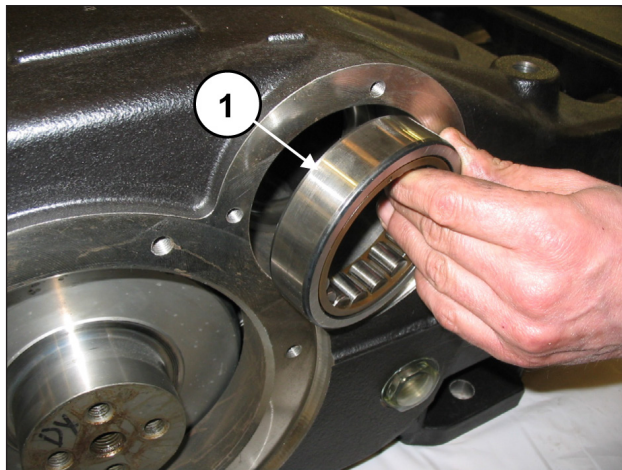
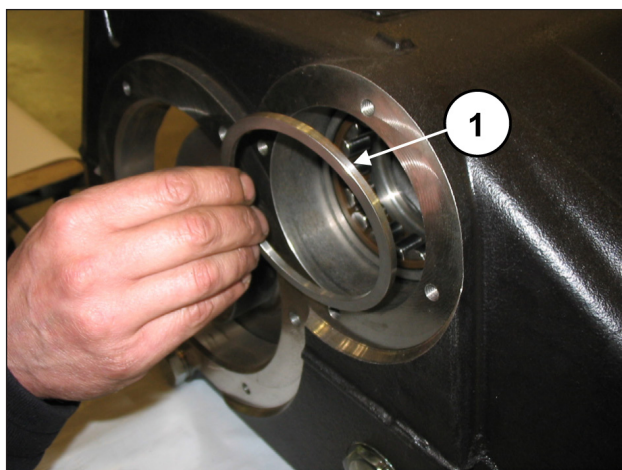
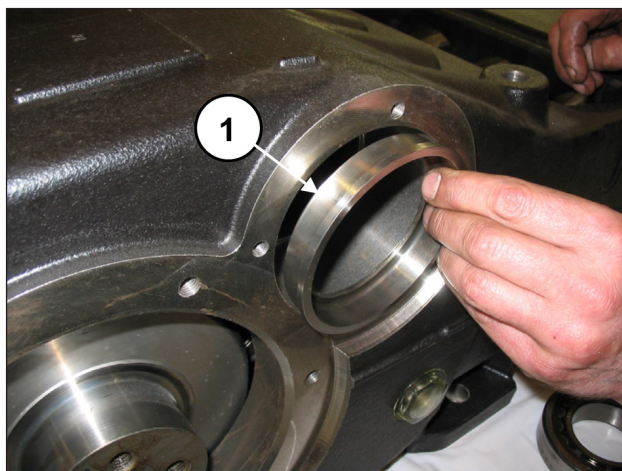

Fig. 36
Fig. 37
Fig. 38
Using a sufficiently long bar (pos. ①, Fig. 36) and an extractor hammer, take the bearing rings out of the pump casing (pos. ①, Fig. 36), along with the external bearing spacer (pos. ①, Fig. 37) and the bearing lubrication bush (pos. ①, Fig. 38).